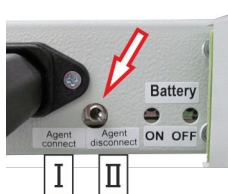

Fig. 80: Blocking switch
- Block all networked systems using the blocking switch (Fig. 80/arrow) prior to performing maintenance work:
switch the blocking switch to "Agent disconnect [blocked]" (Fig. 80/II).